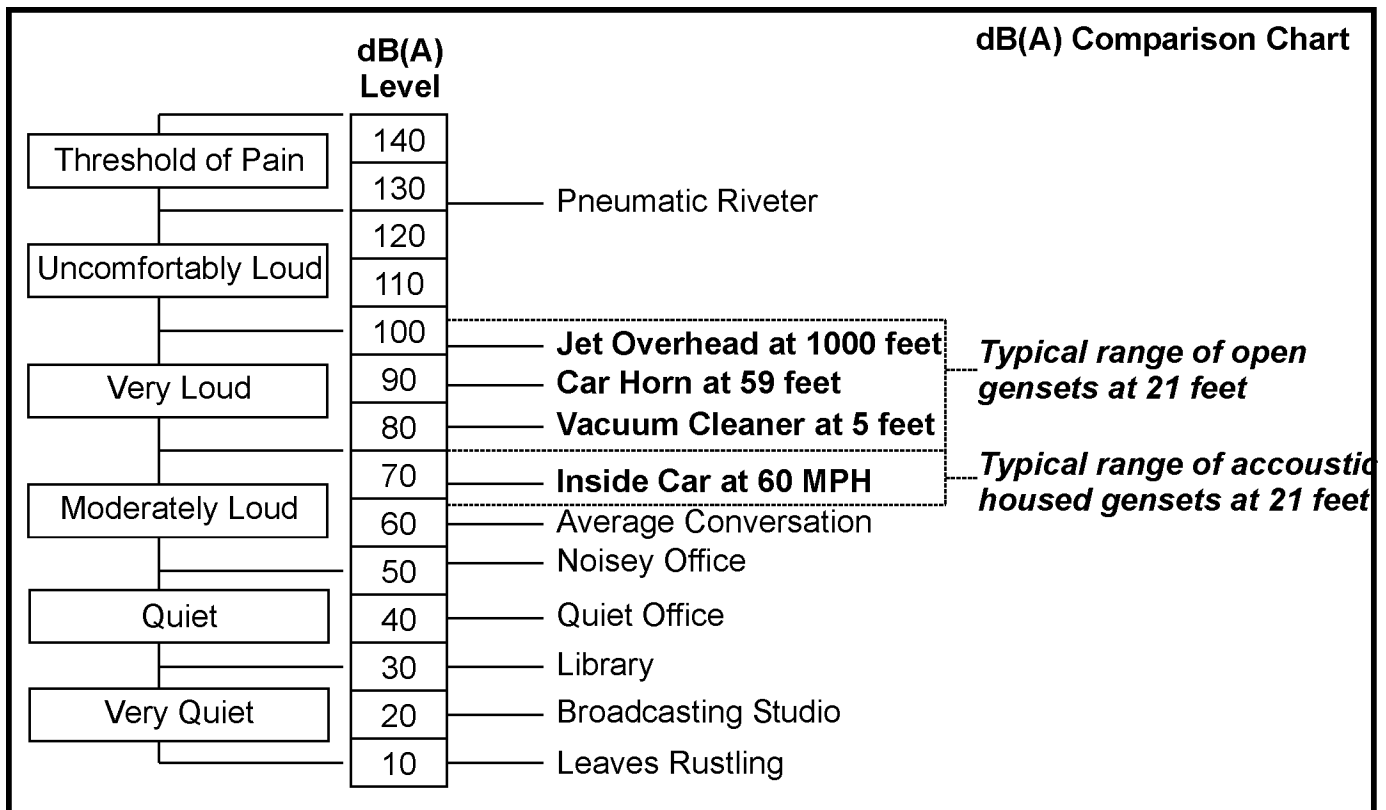

Figure 2. dB(A) Comparison Chart
Noise regulations are written in terms of "decibels 'A' scale" or dB(A). This term means the sound pressure level has been adjusted to duplicate how the imperfect human ear hears noise. The human ear can only hear within a range of frequencies. The dB(A) weighted scale tries to simulate human loudness perception. Loudness is dependent on sound pressure level (amplitude) and frequency. See Figure 2 for a dB(A) comparison.
Figure 2 below provides a comparison of dB(A) levels for daily noises and the typical range of generator sets. Open generator sets are unboxed units where the path of noise is unobstructed. Acoustic housing enclose the genset to impede and absorb the path of noise.